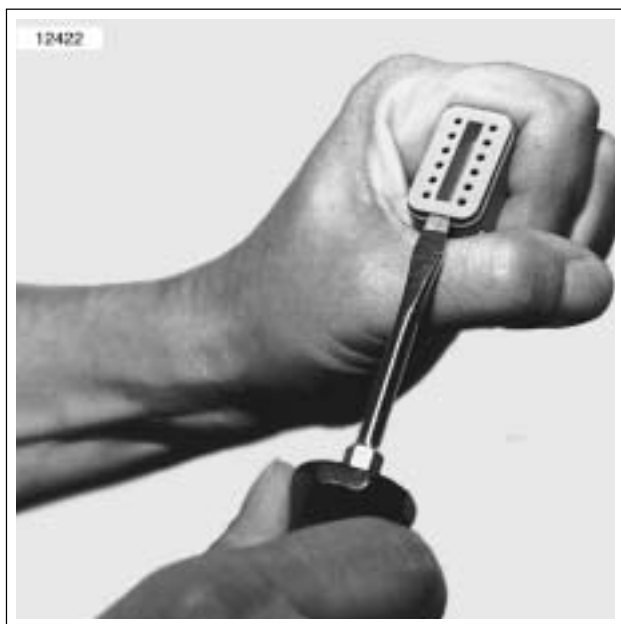

Figure B-9. Remove Secondary Locking Wedge
1. See Figure B-9. Insert a small screwdriver between the socket housing and locking wedge in-line with the groove (in-line with the pin holes if the groove is absent). Turn the screwdriver 90 degrees to pop the wedge up and remove the secondary locking wedge.